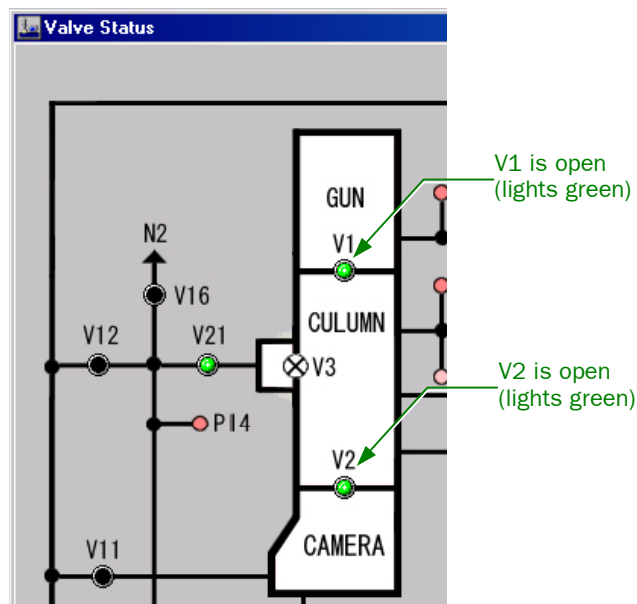

Fig. 6.3 The V1 and V2 valves are open (Valve Status window)
4. Make sure that the V1 and V2 valves are open using the **Valve Status** window (Fig. 6.3).